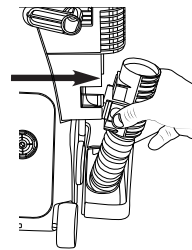

Fig. 1
4. After removing obstruction reset the circuit breaker by pushing the reset button and resume operation (Fig. 1).